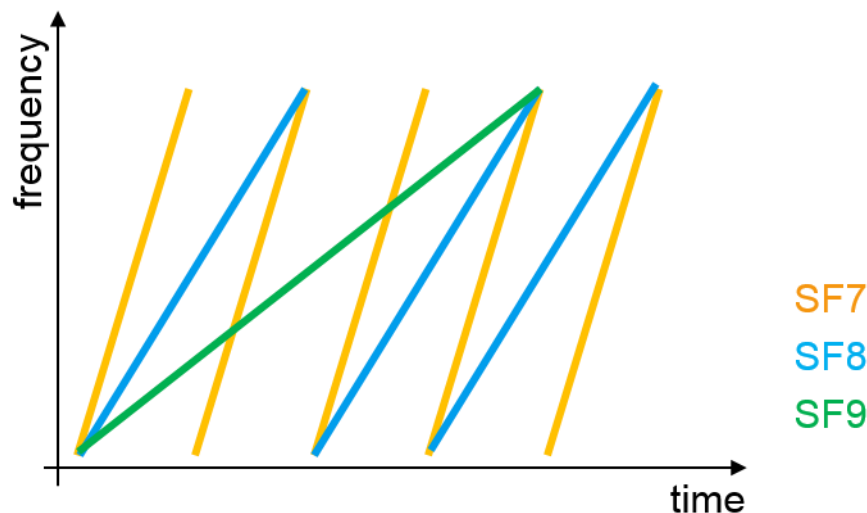

Figure 1-3: Change of frequency over time as a function of spreading factor SF
The ratio between bandwidth and bit rate can be adjusted using the spreading factor (SF). In this case, the SF is a measure of frequency change over time (Figure 1-3), whereby the smallest change rate exists with SF = 12. Here, the values for the SF can have integer values between 7 and 12.